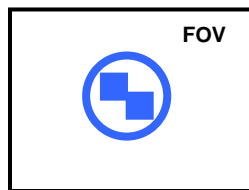

Figure 10 – Aiming Function Using The Blue Ring
3. Release the button to enter the Aim function. The aiming system turns on see Figure 10.